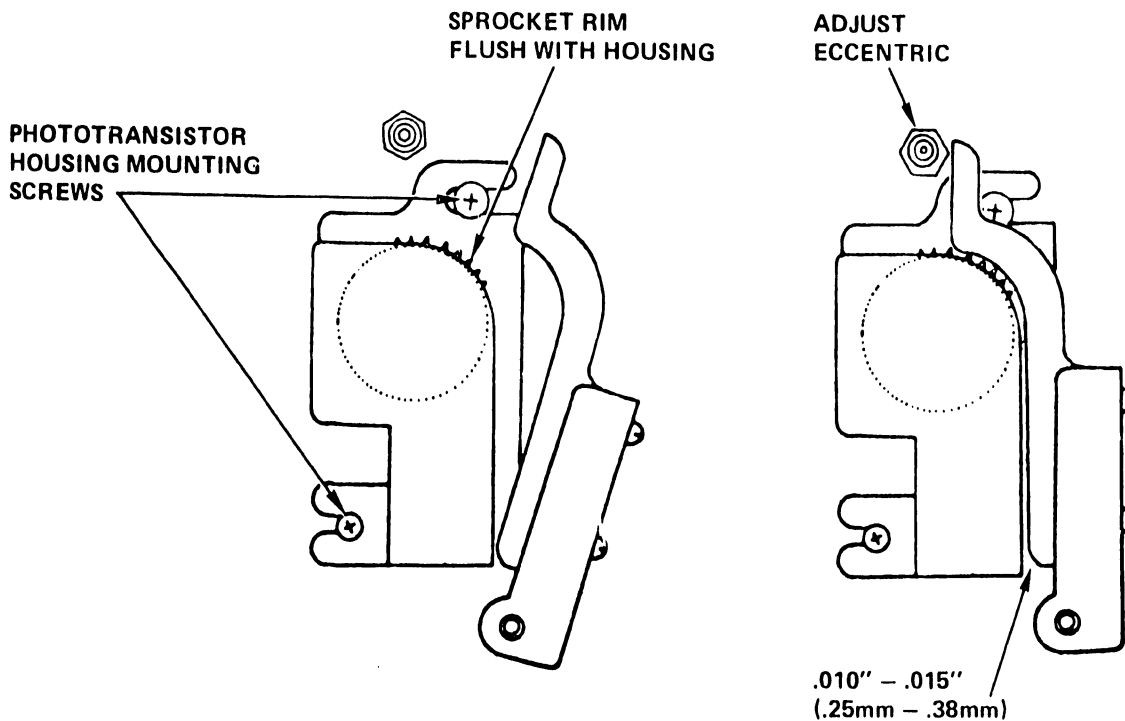

Figure 5-55. VFU Adjustments
- 2. Check for a uniform clearance, with the cover assembly closed, between the phototransistor housing and cover. The clearance should measure .010" to .015" (.25 mm to .38 mm). See Figure 5-55.
2. Adjust the cover stop eccentric (see Figure 5-55) to obtain a gap of .010" to .015" (.25 mm - .38 mm) between the cover and phototransistor housing.